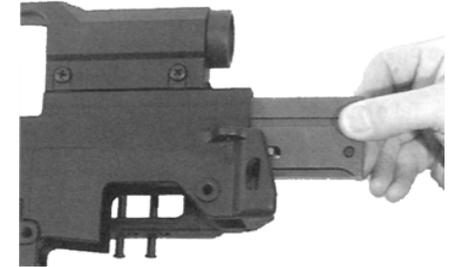

Fig. 38: Remove bolt assembly
- Pull the cocking lever to the rear and detach the bolt (Fig. 38)